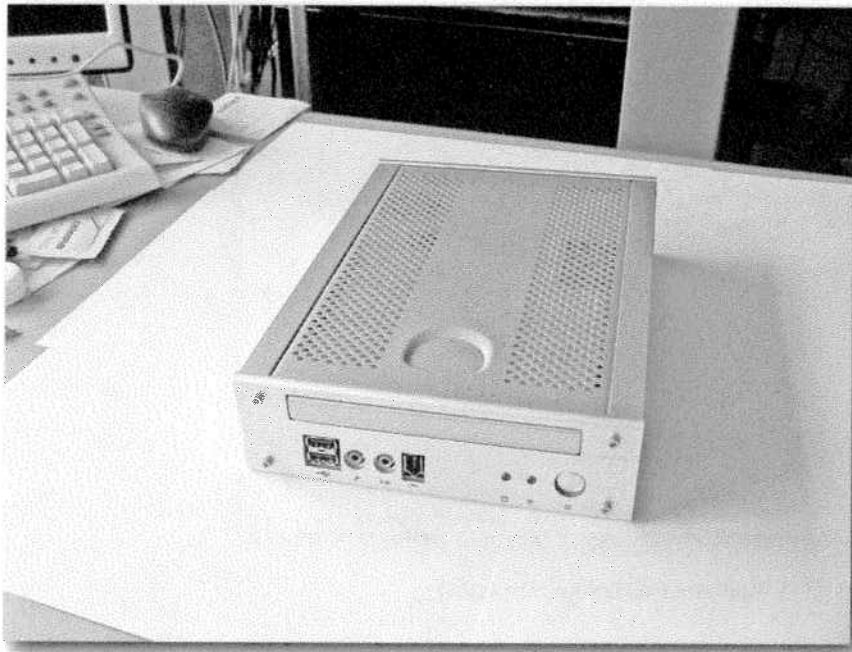
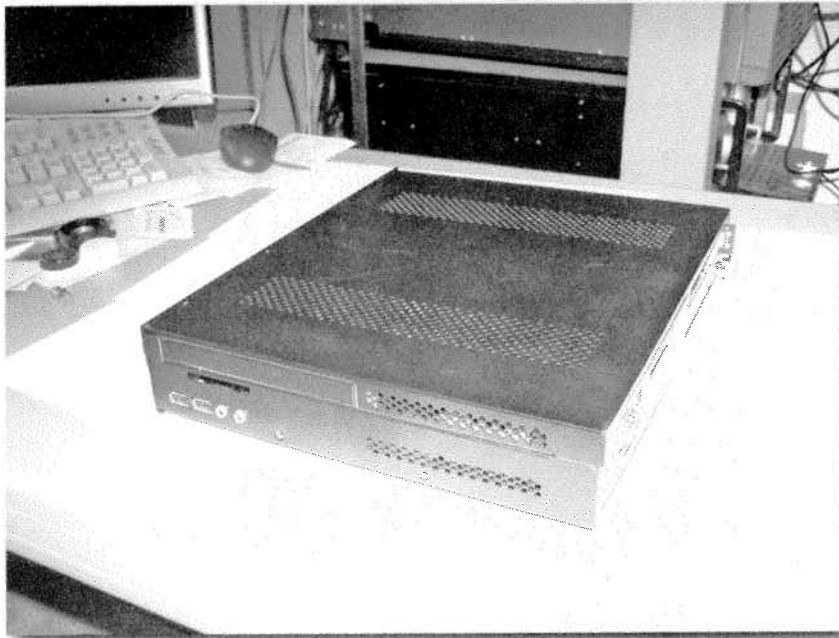

FIGURE 11-7: Travla C134 case for the slimline PC (cramped, but could fit in the dash!).
FIGURE 11-8: Slightly larger yet still compact Travla C158 case for the slimline PC.
- Small computer case that can fit under a seat (see Figure 11-7), such as the Travla C134 (~\$149) or the slightly larger yet more practical (and easier to install stuff in) Travla C158 (~\$159, shown in Figure 11-8).